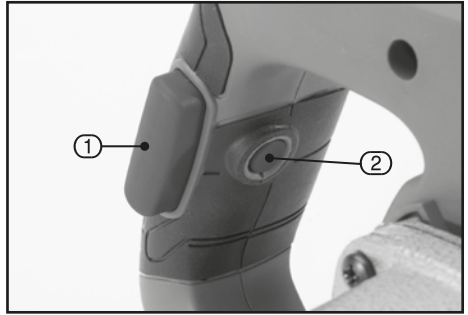
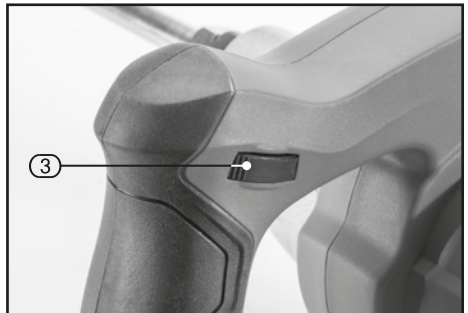

FIG.2
FIG.4
9.1 ON/OFF SWITCH & LOCK-OFF BUTTON – FIG.2 - 3
- To start the mixer, press the lock-off button (2) first, then press the on/off switch (1).
- To turn the mixer off, release the on/off switch (1).
9.2 PADDLE MIXER OPERATION - FIG.4
- Set the speed selection wheel (3) to a low speed.
- Gradually increase the mixing speed by turning the wheel (3) to the desired maximum speed (so that the substance will not splash and the tool will not be overloaded).